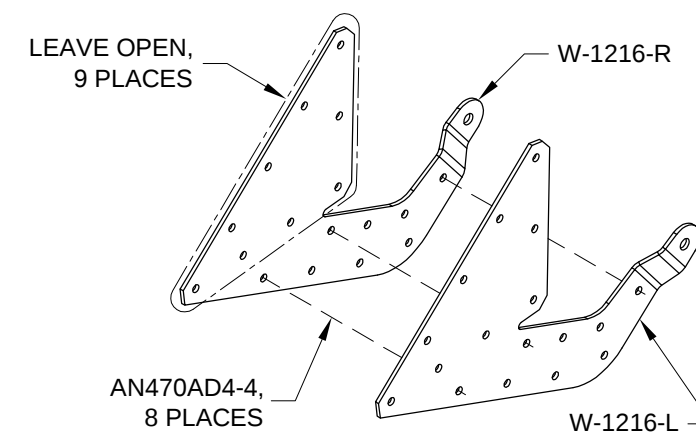

FIGURE 4:
Step 5: Cleco one of the W-1216-R Flaperon Hinge Brackets to one of the W-1216-L Flaperon Hinge Brackets as shown in Figure 4. Do the same with the remaining three left and right flaperon hinge brackets.
Step 6: Rivet the W-1216-L & -R Flaperon Hinge Brackets together using the rivets called out in Figure 4. Set the rivets in a random pattern to prevent warping in the final assemblies. Refer to each of these assemblies as the W-1216 Hinge Bracket Assembly. Set all four W-1216 Hinge Bracket Assemblies aside until Section 16, Wing Skeleton.